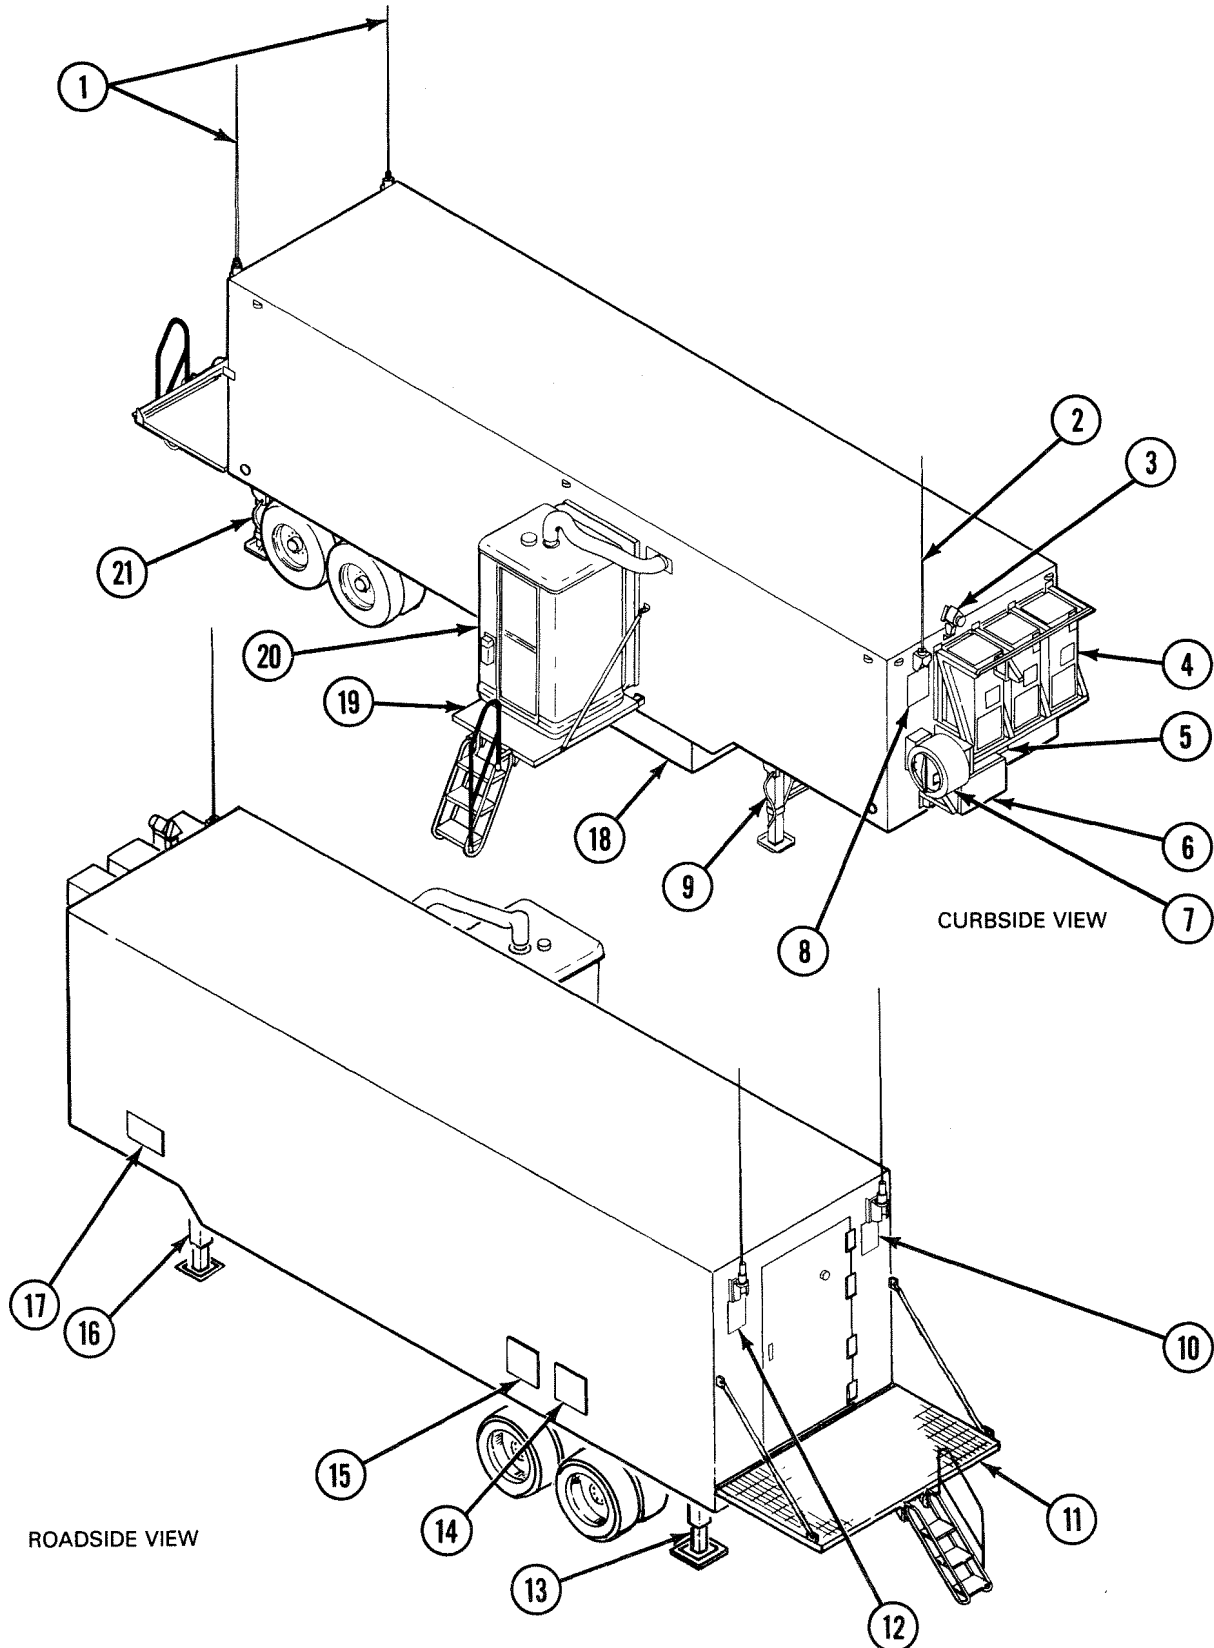

Figure 2-27. CAS Van Major Exterior Features
a. Exterior Features. Figure 2-27 shows CAS van major exterior features.